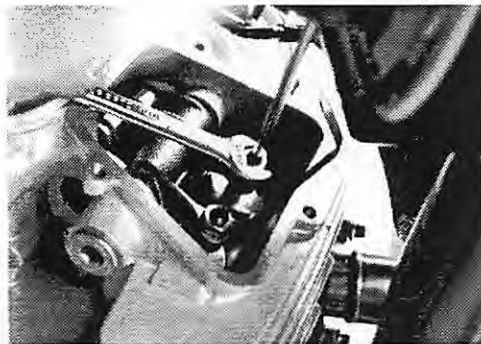

Figure 4.11
7. Insert the correct size feeler gauge between the valve top and the valve adjuster. (Figure 4.11)
9. Hold the valve adjuster in place with the screw driver while tightening the 11 mm hex head lock nut with the box end wrench. (Figure 4.11)